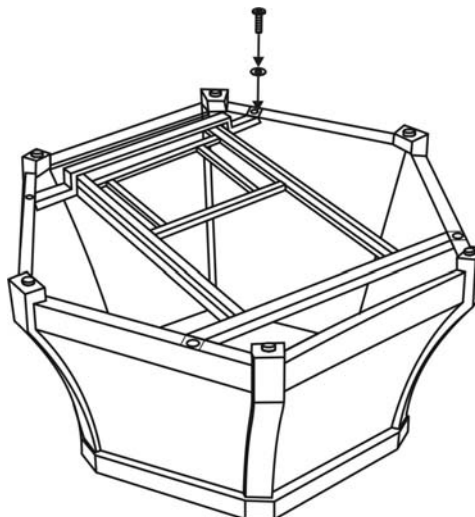

Figure 4
3. Attach the bottom frame (V) to the bottom frame (U) by using four 1/4"x25 mm bolts (O) and washers (Q) as shown in Fig 4. Guide bolts through holes in bottom frame, into pre-drilled holes in the bottom frame. Hand-tighten only.